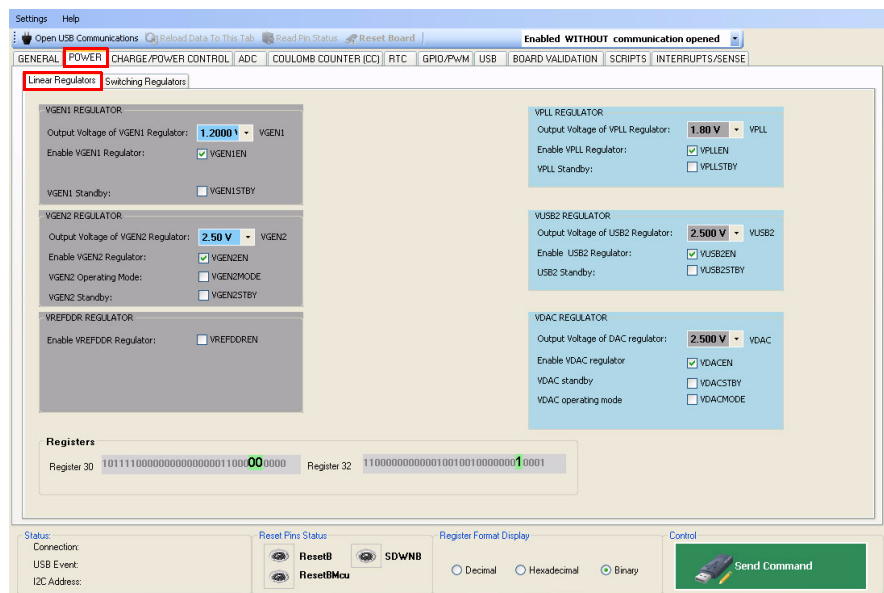

Figure 16. Linear Regulator Configuration Window
1. In the main window of the MC34708 Graphical User Interface Program (Figure 16), click the **POWER** tab to control the registers for the Linear Regulators and Switching Regulators.